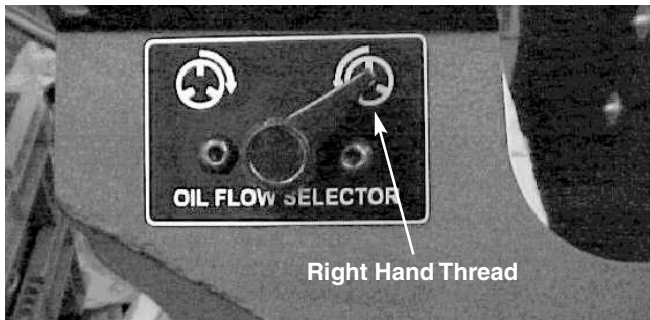

Figure 24 – LH or RH Oil Flow Selector
2. **For 535 Auto Chuck machines:** Install the 535 Automatic Reversing Valve Kit (Cat# 12138) as per kit instructions to allow oil flow in REV. The kit includes a selector for LH or RH oil flow. See Figure 24.